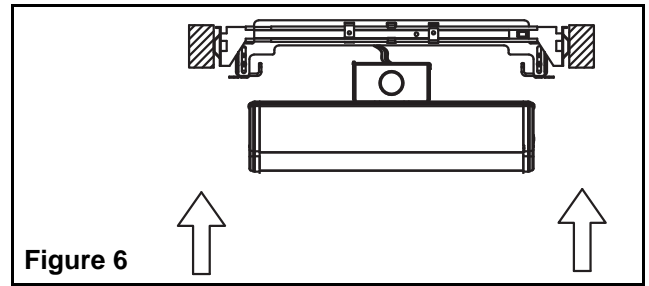

Figure 6
11. Snap the housing assembly into the bar hanger assembly (see fig.6).